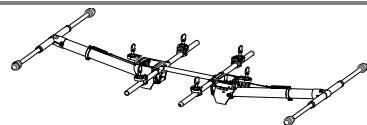

Fig.1
**Retracted** : Toggle the switch to this position to retract the landing gear (Fig.1)